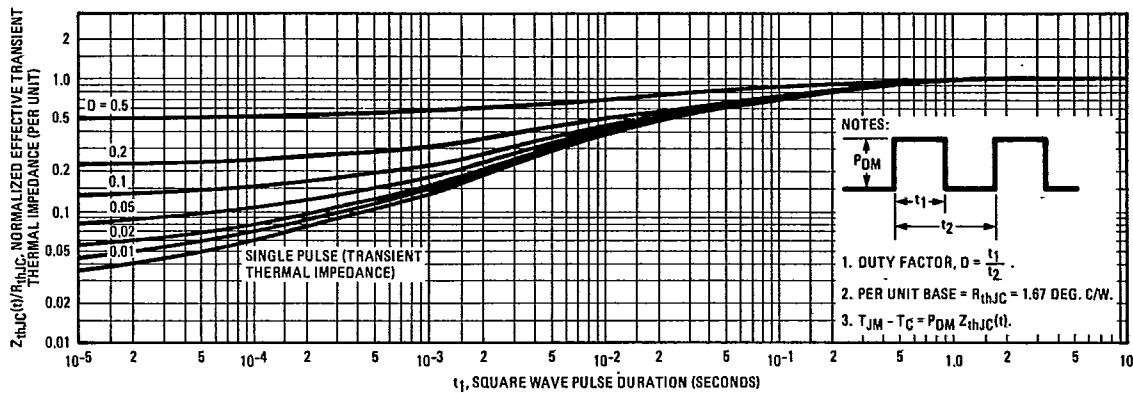

Fig. 5 – Maximum Effective Transient Thermal Impedance, Junction-to-Case Vs. Pulse Duration
- ① $T_J = 25^\circ\text{C}$ to 150°C .
- ② Pulse Test: Pulse width $\leq 300\mu\text{s}$, Duty Cycle $\leq 2\%$.
- ③ Repetitive Rating: Pulse width limited by max. junction temperature. See Transient Thermal Impedance Curve (Fig. 5).
- ④ $\text{K/W} = \text{K/W}$